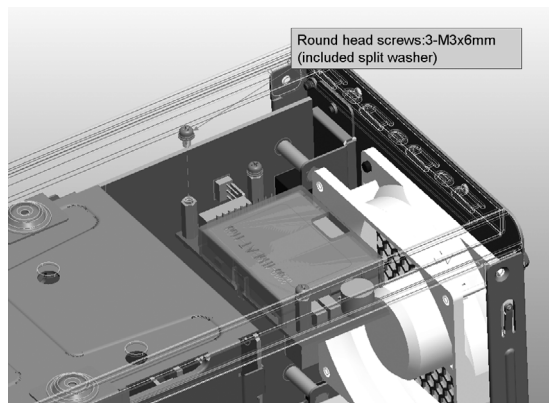

Figure B-2, Secure the Battery Pack Module
2. After removing the cover, then secure the battery pack module (ARC-6120-BAT-12G, reference NO.1 in Figure B-1) on the enclosure, as shown in Figure B-2.